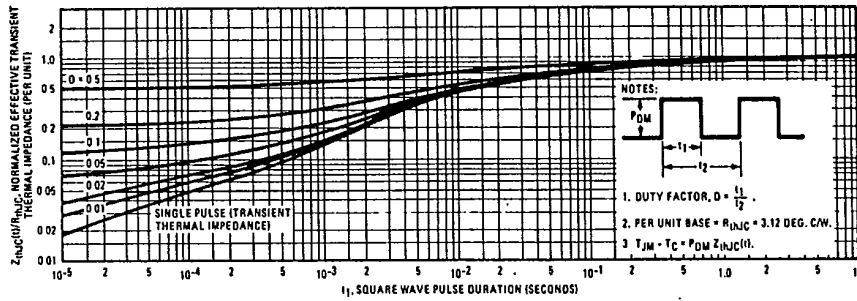

Fig. 5 - Maximum Effective Transient Thermal Impedance, Junction-to-Case Vs. Pulse Duration
① T_J = 25°C to 150°C. ② Pulse Test: Pulse width < 300μs, Duty Cycle < 2%. ③ Repetitive Rating. Pulse width limited by max. junction temperature. See Transient Thermal Impedance Curve (Fig. 5).